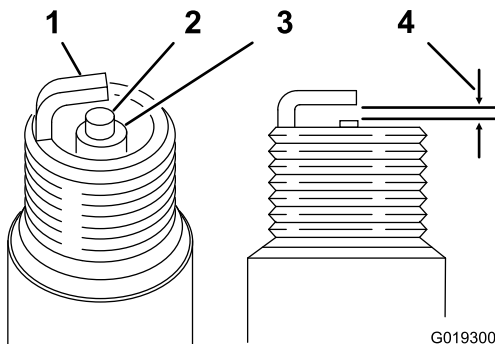

Figure 27
4. Examine the plug for wear and damage (Figure 27).
5. Check the spark-plug gap with a wire gauge (Figure 27).